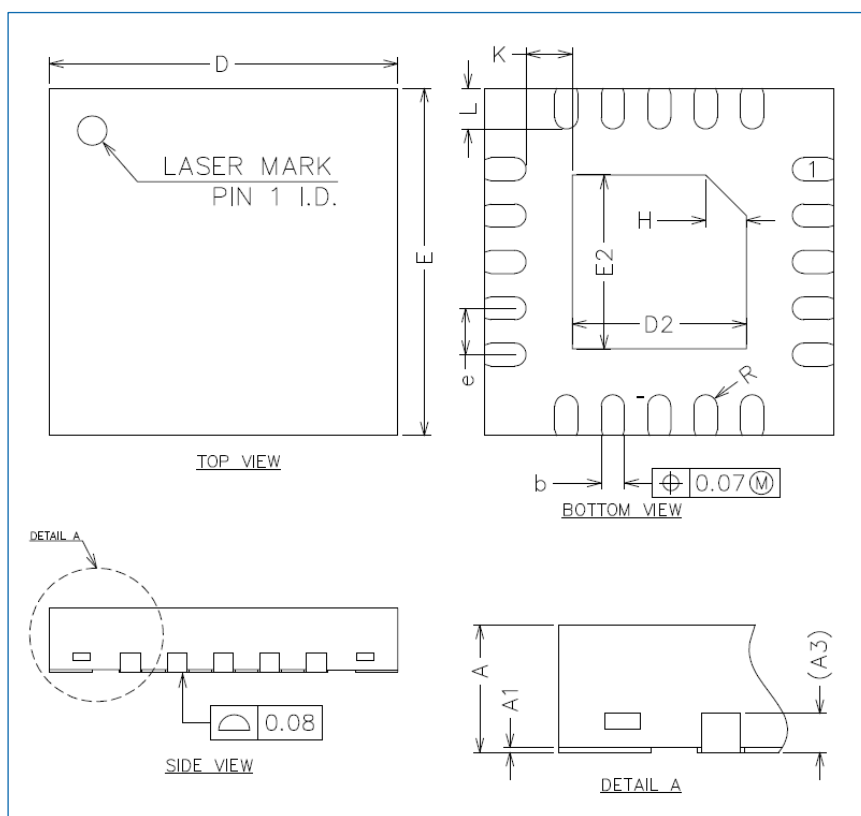

Figure 7-6 QFN20 package 3 outline
- 3 mm × 3 mm, 0.4 mm pitch (0.55 mm thick) package (as shown in Figure 7-6): HK32C003F4S6